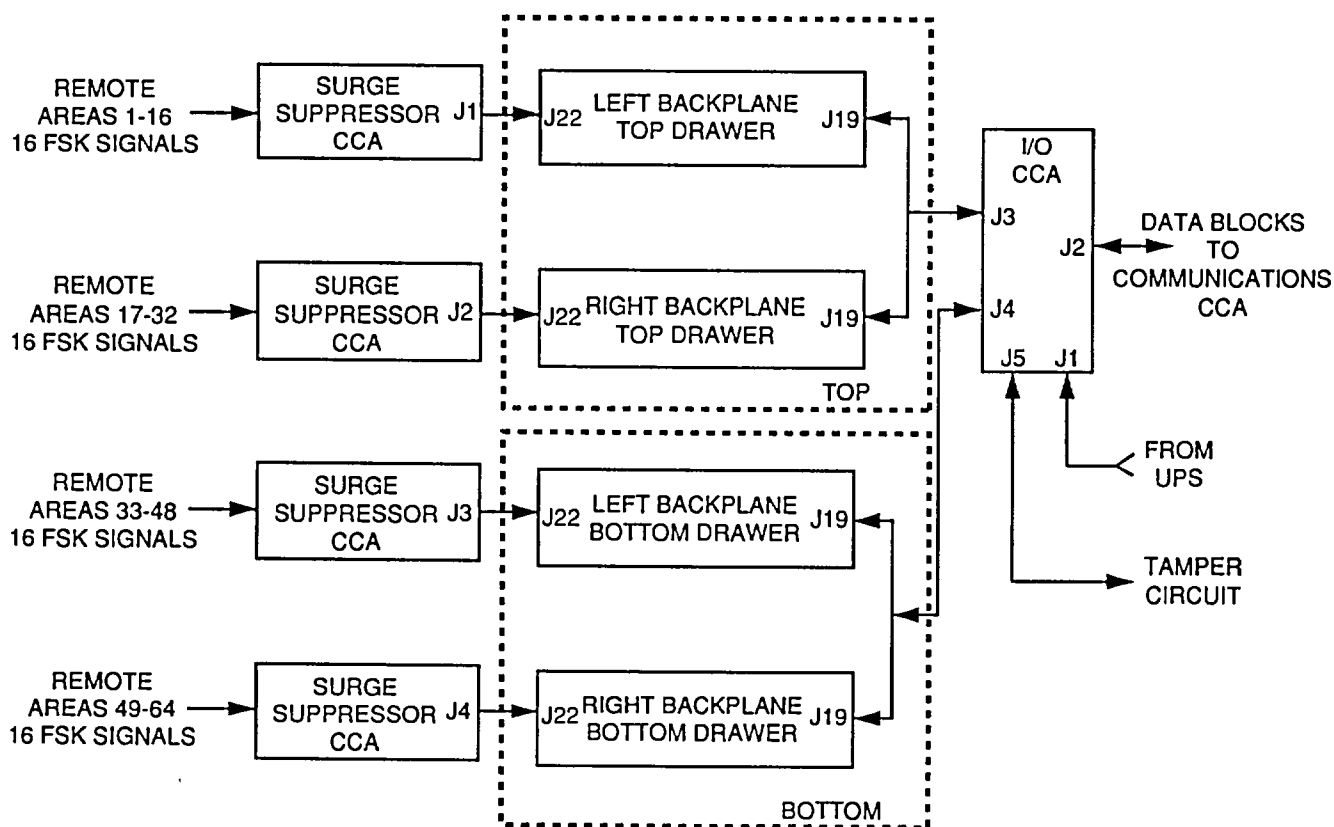

Figure 1-5. CMA Block Diagram.
1.13.3 Converter Multiplexer Assembly (CMA) Functional Description. The CMA (figure 1-5) receives the FSK signals from the J-SIIDS data transmitters located at up to 64 remote areas. It also receives the power status from the UPS. The FSK signals are processed by the CMA for transmission to the computer.